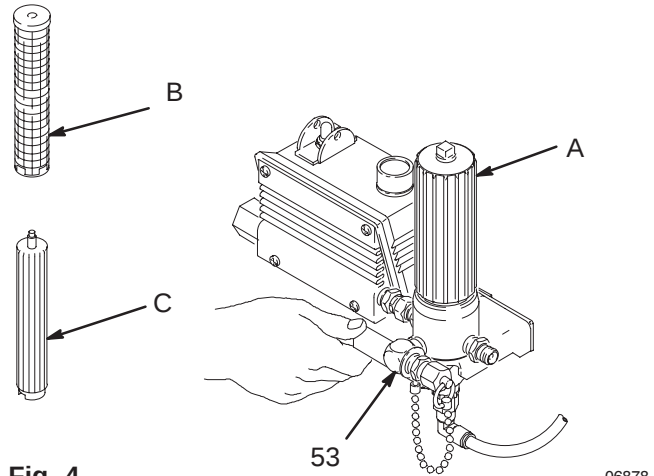

Fig. 4
4. Unlock the trigger safety. Hold a metal part of the gun firmly to the side of a grounded metal pail, and trigger the gun to relieve the pressure. See Fig. 4, A.
2. Remove the filter bowl (A) and screen (B); see instruction manual 307–273, supplied. Install the bowl and support (C), without the screen, to flush. Clean the screen separately. See Fig. 4.
3. Close the pressure drain valve (53).